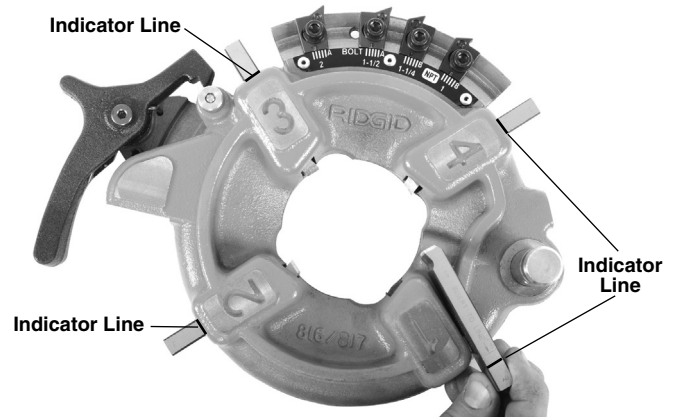

Figure 2 – Inserting Dies
5. Insert appropriate dies into the die head, numbered edge up until the indicator line is flush with the edge of the diehead (*see Figure 2*). Numbers on the dies must correspond with those on the die head slots. Always change dies as sets – do not mix dies from different sets.